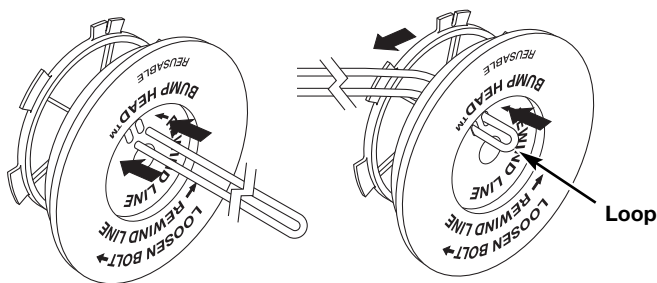

Fig. 34
6. Take approximately 18 feet (6 m) of new trimming line, loop it into two equal lengths. Insert each end of the line through one of the two holes in the inner reel (Fig. 34). Pull the line through the inner reel so that the loop is as small as possible.